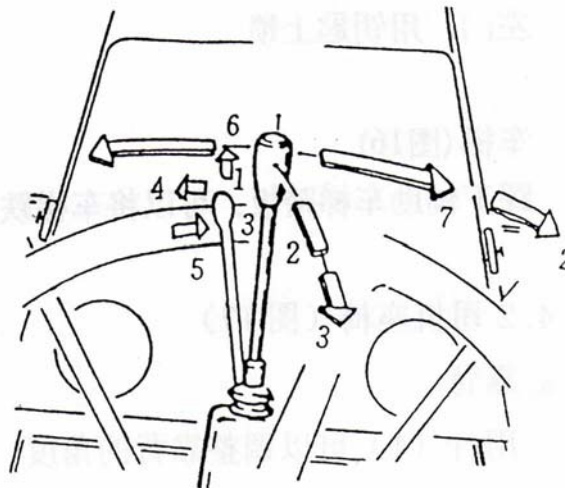

Fig. 14
7.3.5 Comprehensive switch (Fig. 14)